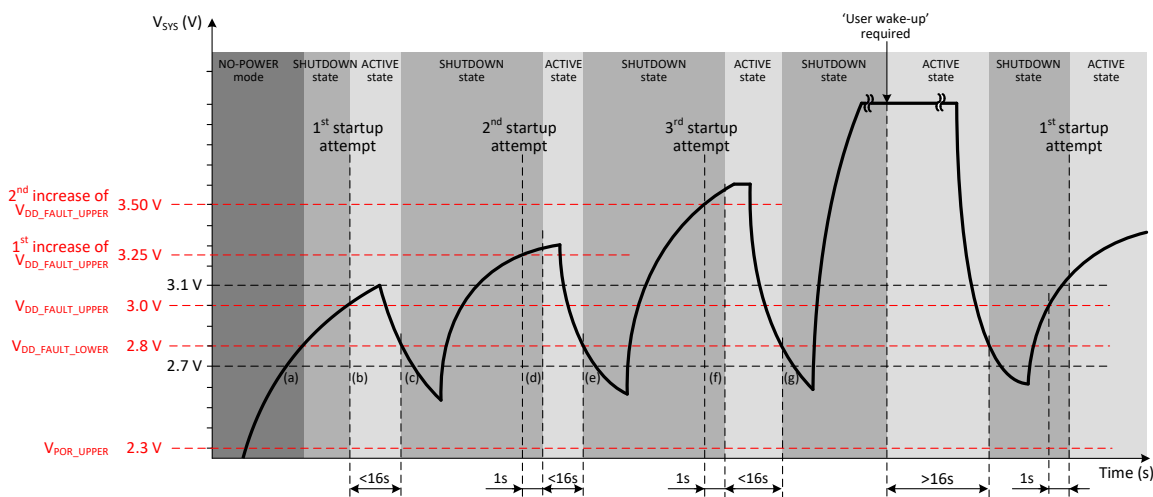

Figure 2: VDD_START Faults
The DA9061/2 VDD_START feature prevents endless looping of false starts in a weakly-powered system. VDD_START limits the number of automatic restart attempts to three. With reference to Figure 2:
- Figure 2(a): The PMIC starts from NO-POWER mode.
- Figure 2(b): First startup attempt. The PMIC transitions to the ACTIVE state when V_{SYS} rises above $V_{DD_FAULT_UPPER}$.
- Figure 2(c): If, during the first startup attempt, the V_{SYS} supply drops below $V_{DD_FAULT_LOWER}$ for more than 100 ms, the PMIC shuts down to the SHUTDOWN state. $V_{DD_FAULT_UPPER}$ is increased automatically by 250 mV. However, the increased $V_{DD_FAULT_UPPER}$ is limited to a maximum of 3.70 V.
- Figure 2(d): Second startup attempt. If V_{SYS} rises above the new $V_{DD_FAULT_UPPER}$ threshold, then the PMIC will power-up to the ACTIVE state.
- Figure 2(e): If, during the second startup attempt, the V_{SYS} supply drops below $V_{DD_FAULT_LOWER}$ for more than 100 ms, the PMIC shuts down to the SHUTDOWN state. $V_{DD_FAULT_UPPER}$ is increased automatically by a further 250 mV (500 mV above its original setting). However, the increased $V_{DD_FAULT_UPPER}$ is limited to a maximum of 3.70 V.
- Figure 2(f): Third startup attempt. If V_{SYS} rises above the new $V_{DD_FAULT_UPPER}$ threshold, then the PMIC will power-up to the ACTIVE state.
- Figure 2(g): If, during the third startup attempt, the V_{SYS} supply drops below $V_{DD_FAULT_LOWER}$ for more than 100 ms, the PMIC shuts down. From then on, AUTO_BOOT and wake-up from non-user events are temporarily disabled. 'User events' are defined as an ONKEY press or a GPI passive to active transition where $GPIO<x>_PIN = 0b01$ and $GPIO3_WEN = 1$. GPIO4 configured as SYS_EN and GPIO2 configured as PWR_EN are not 'user events'.